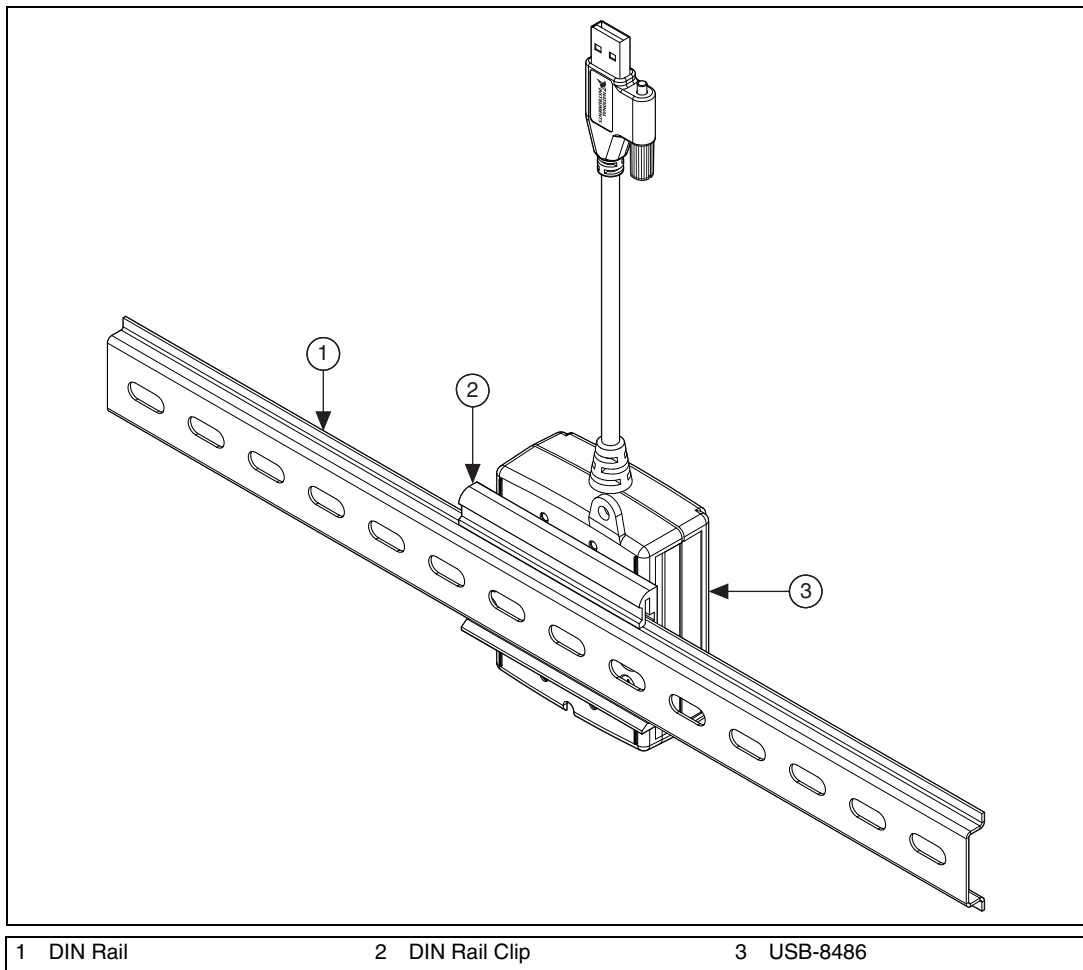

Figure 2-6. Clipping the USB-8486 to a DIN Rail
2. Clip the device onto the DIN rail as shown in Figure 2-6.